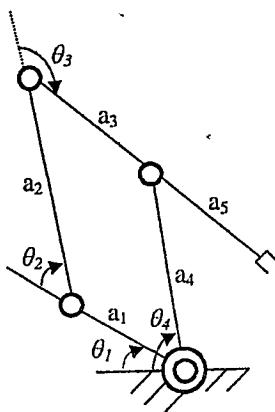

Fig. 1
4. Determine the forward kinematic solution for the parallelogram arm shown in Fig.1